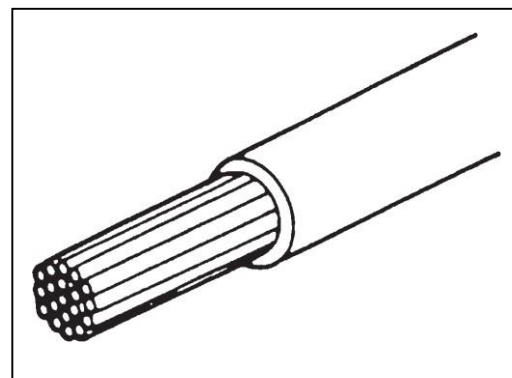

Figure 11
2. Using wire strippers, strip about 3/8" of insulation off of the wire (Figure 11). Be careful not to cut the wire strands.